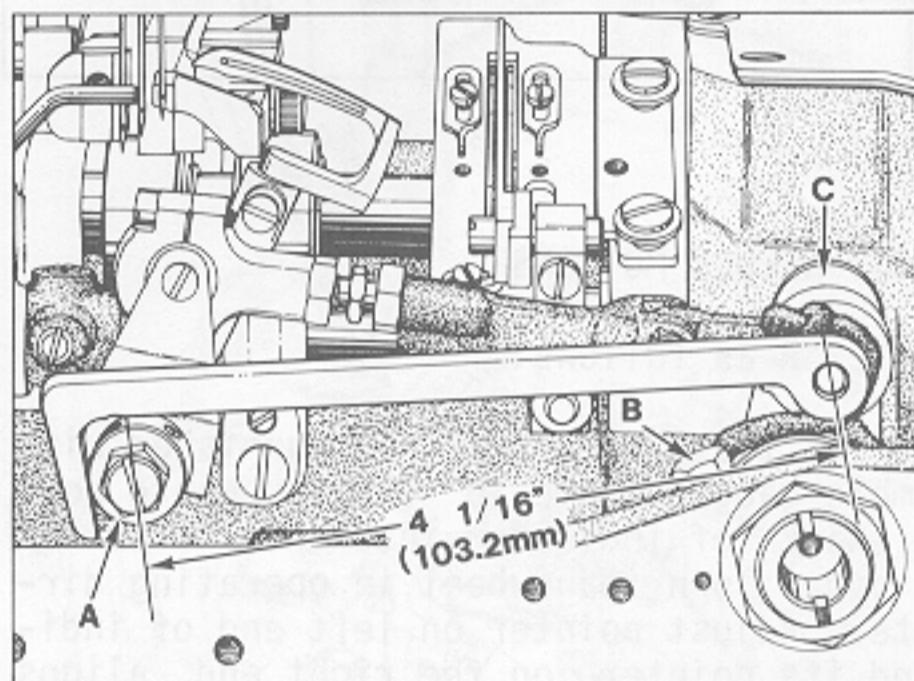

Fig. 6
With looper at extreme right end of travel, check location of the right looper connecting rod bearing using gauge No. 21227 DC as shown in Fig. 6. Place hole of gauge over threaded stud, then set the side of looper rocker cone (A) as shown. If the gauge does not fit, loosen clamp screw (B) and reposition looper drive lever (C) as required, then tighten screw (B).
If gauge No. 21227 DC is not available, check setting with a scale. Distance between the centerline of rocker cone and centerline of looper drive lever stud should be 4 1/16 inch (103.2mm) as shown in Fig. 6; when looper is at its extreme right end of travel.